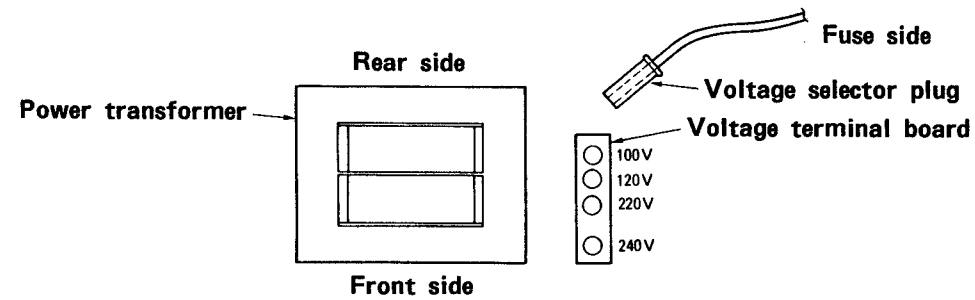

Fig. 6 Internal selection of Supply Voltage
To change the supply voltage, remove the case (in accordance with item 2-1 above), and reconnect the voltage selector plug on the printed circuit board in the unit to a desired voltage position on the voltage terminal board. (See Fig. 6.)